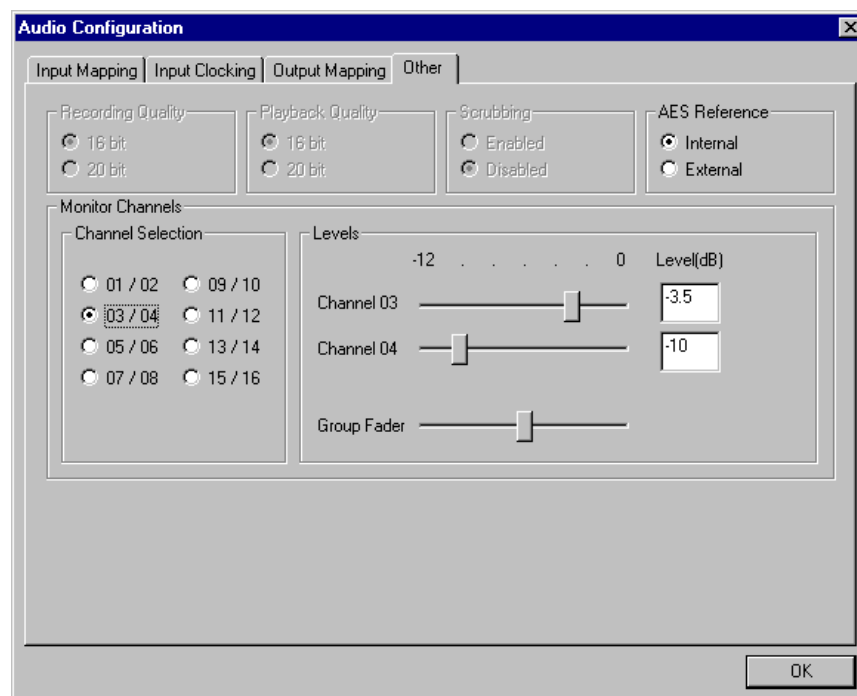

Figure 40. Audio Configuration dialog box, Other tab
1. Choose **Options | Audio Configuration**. The Audio Configuration dialog box appears (Figure 40).